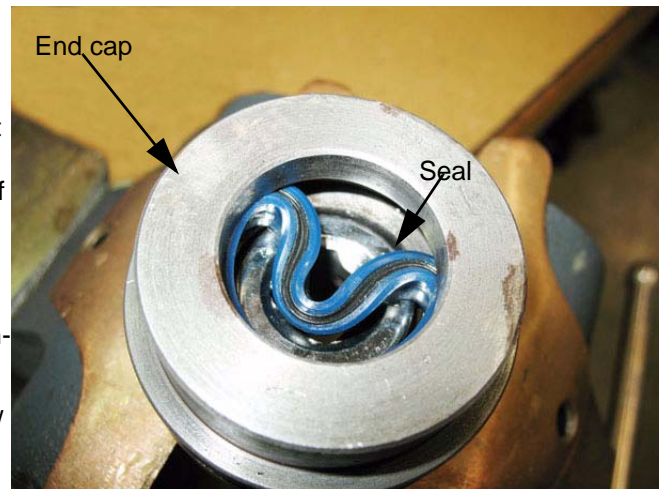

Figure 5.29
- 3.27. Install the seal: See Figure 5.29.